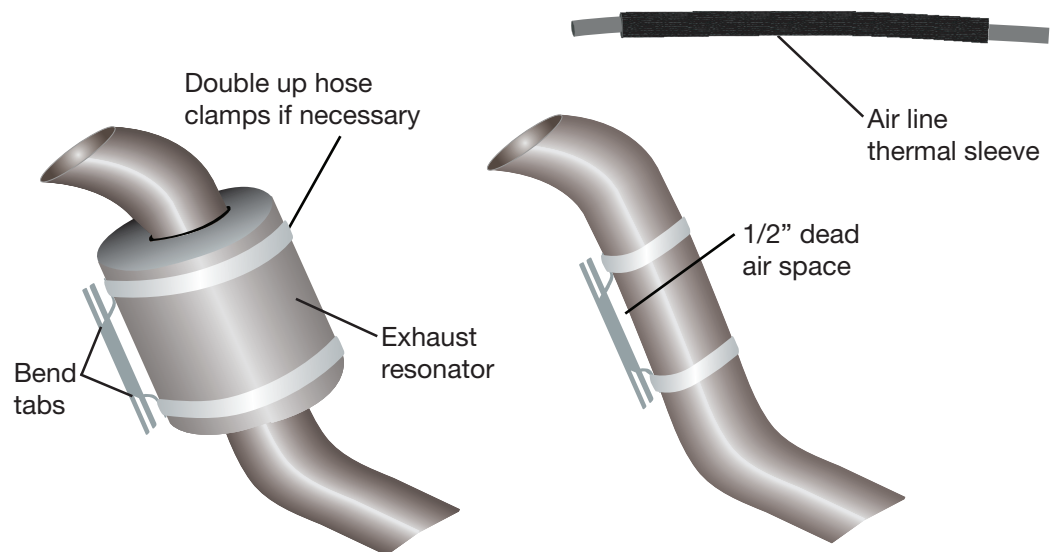

fig. 27
1. Attach the metal heat shield to the exhaust where it is closest to the air spring. Slide the air line thermal sleeve over the air line and place it where the air line is closest to the exhaust (Fig. 27).